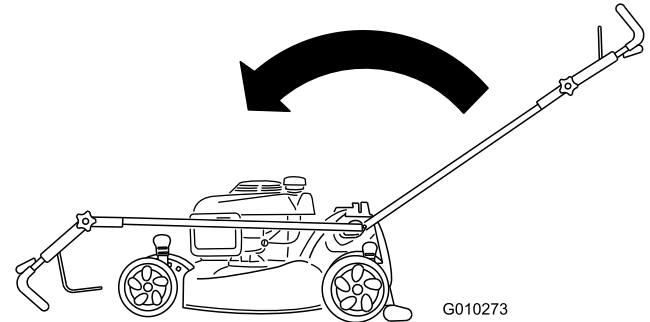

Figure 38
1. Handle knob (2)
2. Move the handle forward as shown in Figure 38.